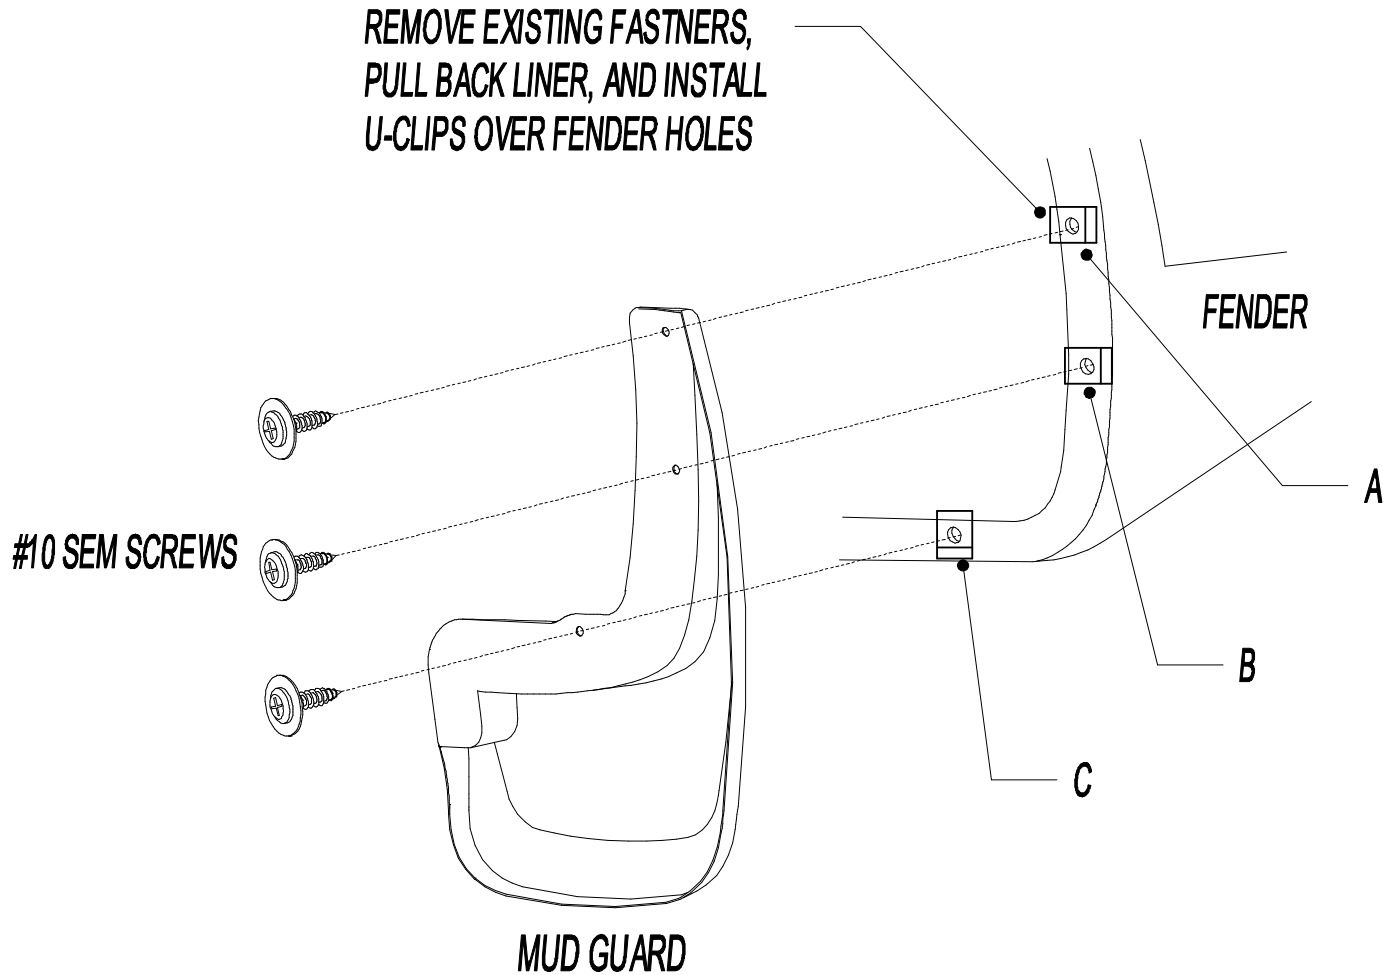

Figure 1
1. Remove the existing fasteners from locations A, B and C (Figure 1).